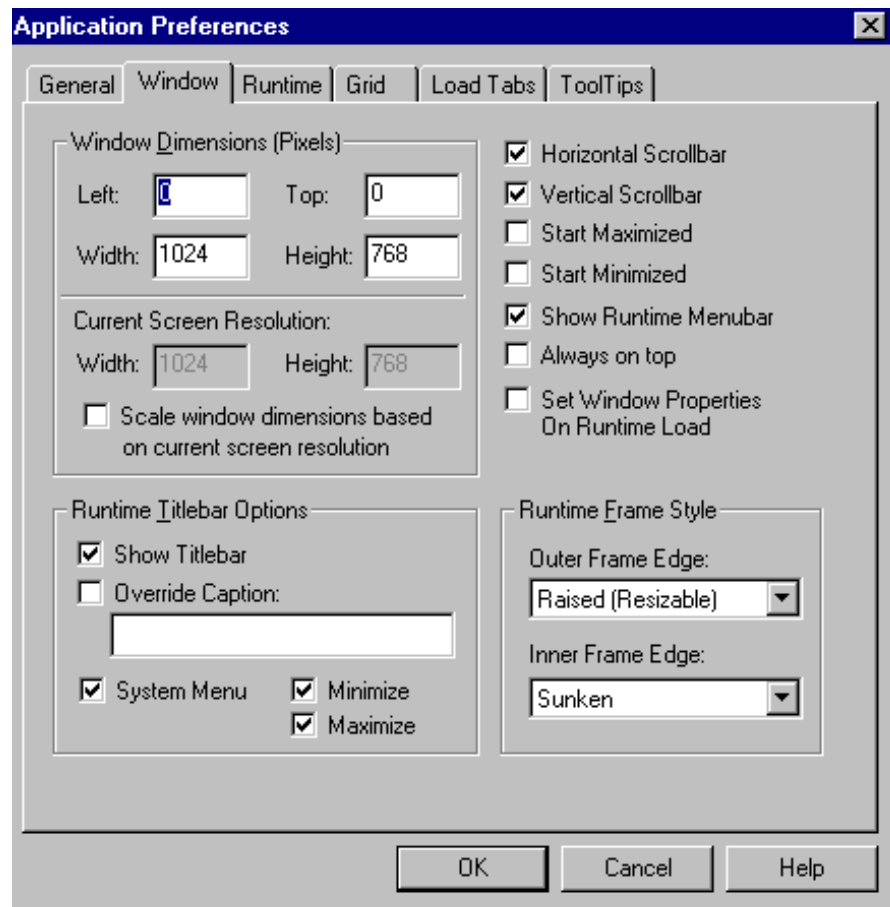

Figure 4-6: Application Preferences: Window Tab
2. Select the Window tab (Figure 4-6).